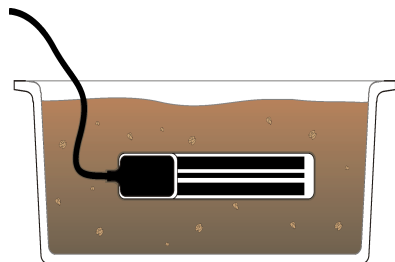

Figure 3
6. Pour the soil into the container position the sensor as shown in Figure 3. The long